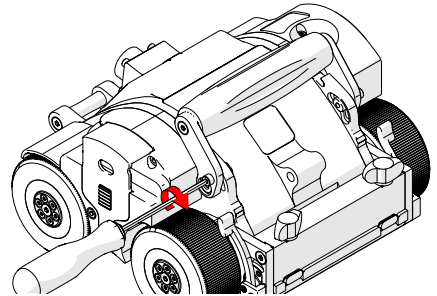

Fig. 58 - Tighten lock screw
3. Tighten the handle lock screws when complete (Fig. 58).